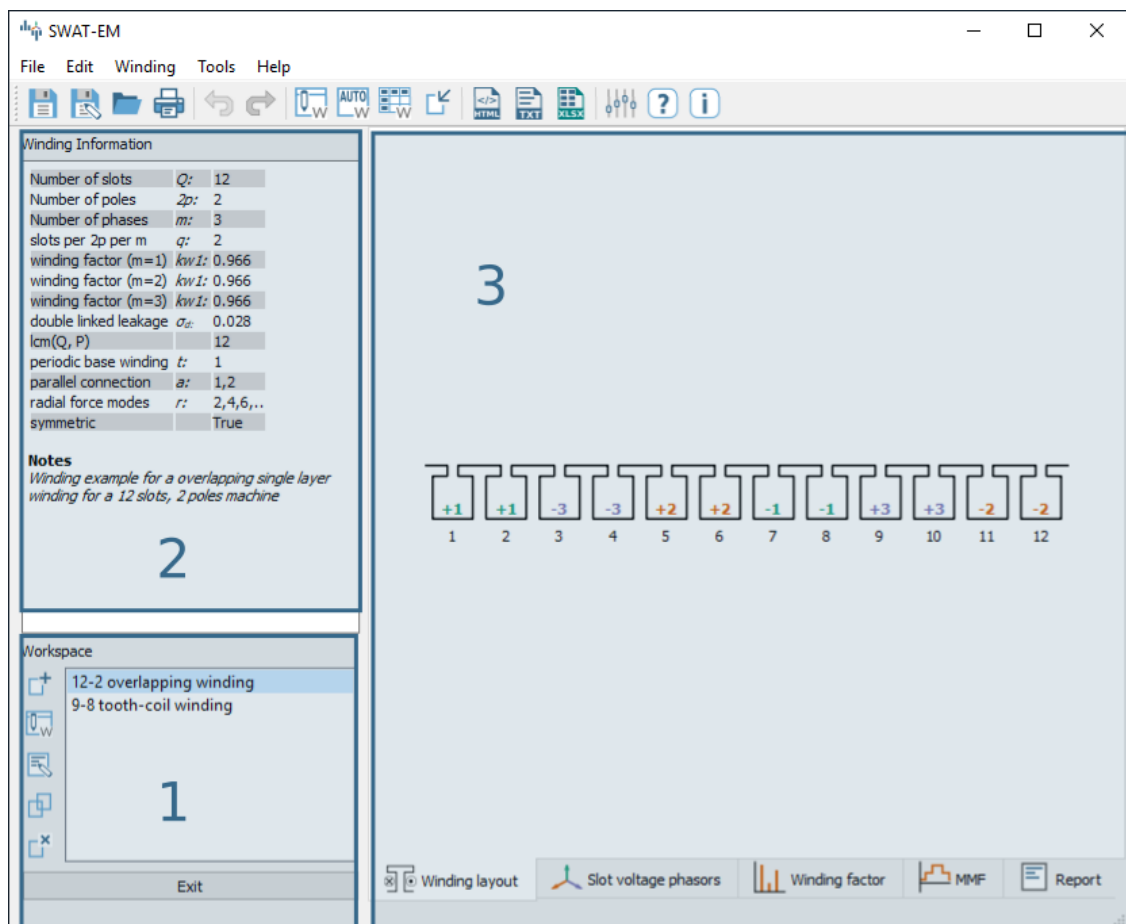

Figure 4.1: Main-window
workspace shows all the windings of the project. By clicking of the name all outputs (text and plots) gets updated. The buttons on the left of (1) in figure 4.1 modifies the windings in the workspace
The text field (2) in figure 4.1 shows a summary of actual winding.
Many analyzing function results in plots which are shown on(3) in figure 4.1. Every plot has a toolbar on the bottom for zooming, panning and saving the figure to file.